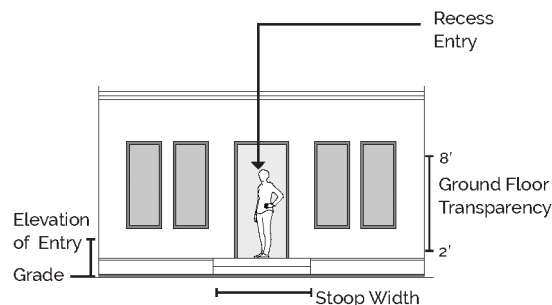

Figure 5.5-3. Stoop
- (b) Stoop. Refer to Figure 5.5-3, Stoop.